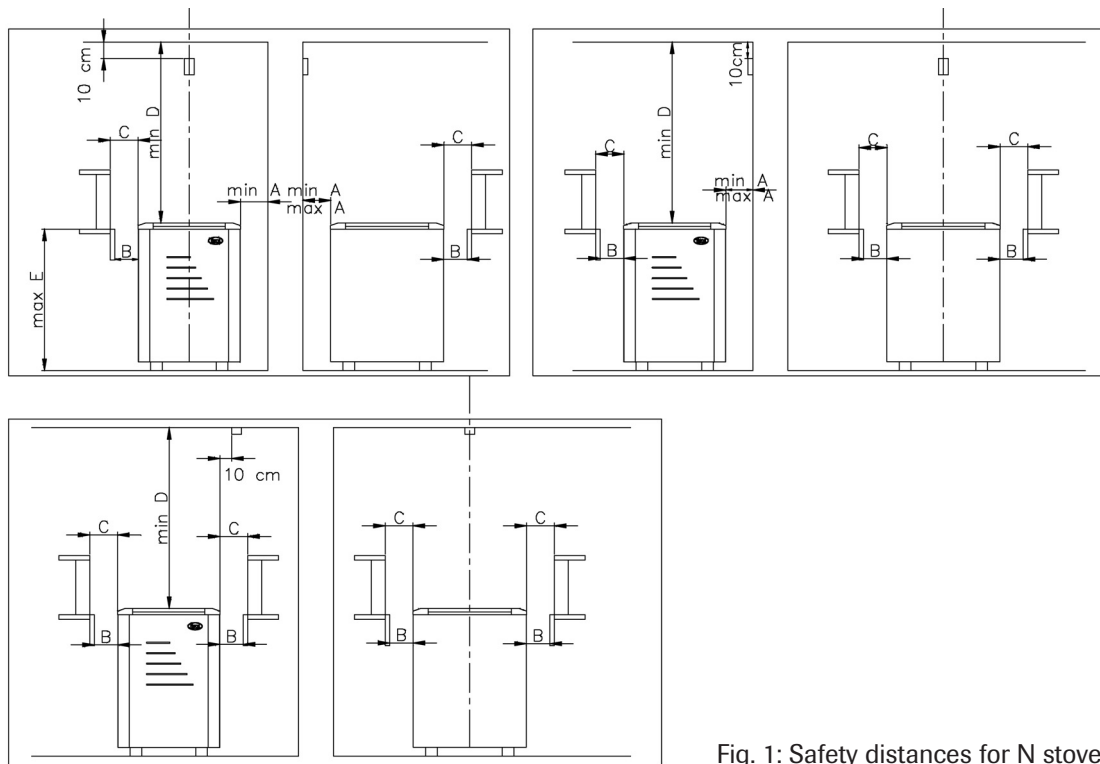

Fig. 1: Safety distances for N stoves
\*\*) See Fig. 1
- Observe the safety distances (Fig. 1) when installing the stove.